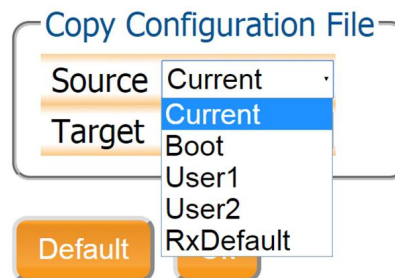

Figure 6-7: Select 'Current' as Source
2. Select 'Current' in the Source drop down box as shown in Figure 6-7.